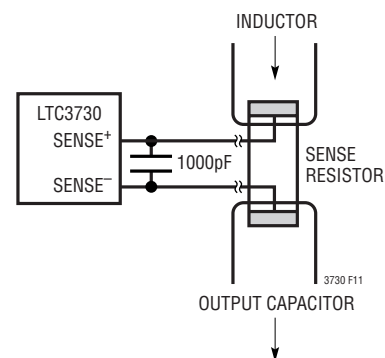

Figure 11. Kelvin Sensing  $R_{SENSE}$
3) Are the  $SENSE^-$  and  $SENSE^+$  printed circuit traces for each channel routed together with minimum PC trace spacing? The filter capacitors between  $SENSE^+$  and  $SENSE^-$  for each channel should be as close as possible to the pins of the IC. Connect the  $SENSE^-$  and  $SENSE^+$  pins to the pads of the sense resistor as illustrated in Figure 11.